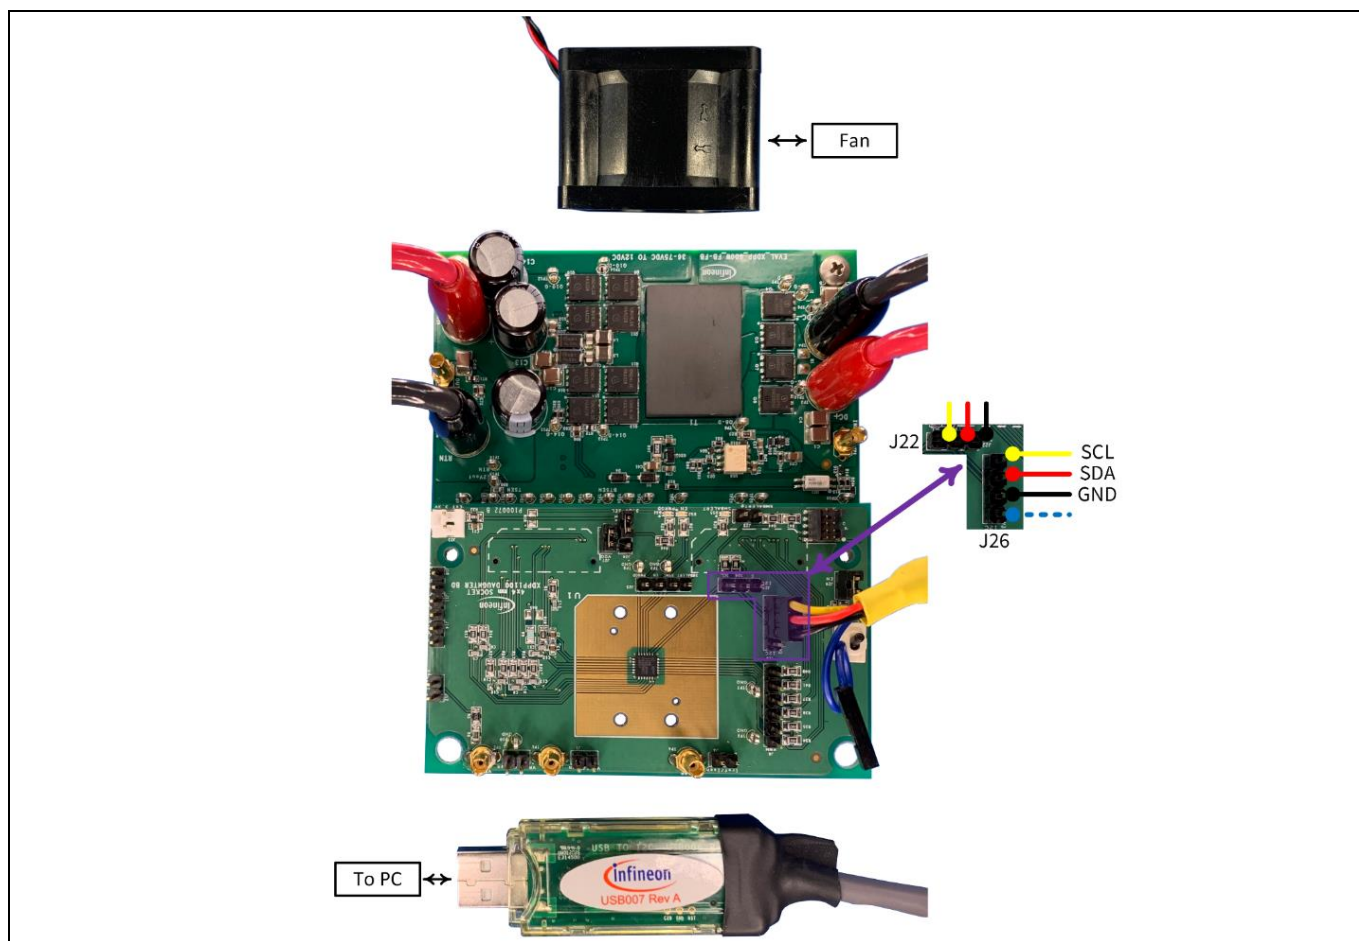

Figure 4 Evaluation test set-up
Figure 4 shows the XDPP1100 evaluation kit set up while the XDPP1100 daughterboard is mounted on top of the power converter board.
The dongle can be connected to either J22 (no pin for blue wire) or J26 (has pin for blue wire), as shown in **Figure 4**.
- 1) Set up the evaluation kit as shown in Figure 4.
- 3) Plug the USB dongle into the PC and the J26 header of the daughterboard (Figure 4).
- 1) Place a fan with a minimum of 400 LFM airflow next to the power board while airflow blows over the top and the bottom of the power board where the FETs are populated. For example, supplying the recommended fan (04028DA-12R-AU-F0) with 7.5 V DC and placing it at a distance of 1 to 2 cm to the bottom side of the power board will meet the cooling criteria (Figure 4).